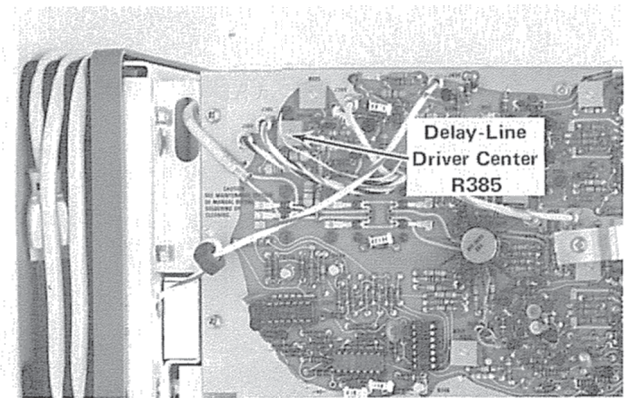

Fig. 5-7. Location of Delay-Line Driver Centering adjustment.
c. ADJUST—Delay-Line Driver Centering adjustment, R385 (see Fig. 5-7), for a reading of 0 volts at both ends of the delay line.
h Fig. 5-7. Location of Delay-Line Driver Centering adjustment.